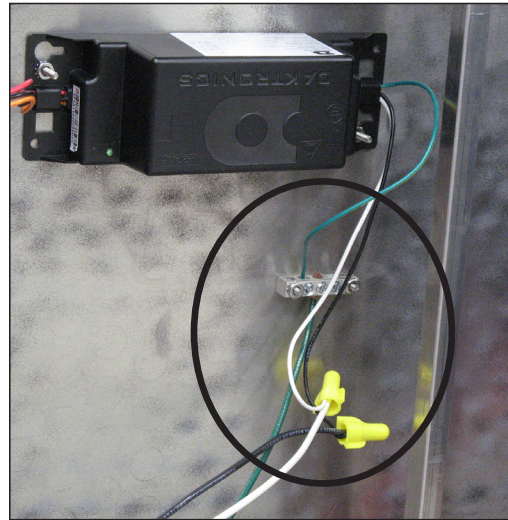

Figure 8: Power Connection (18" Digit Display)
2. Use wire nuts or other appropriate hardware to connect incoming power wires to the power supply(s), as shown in **Figure 8**.
3. Connect incoming power ground wire(s) to ground bus bar, as shown in **Figure 8**.